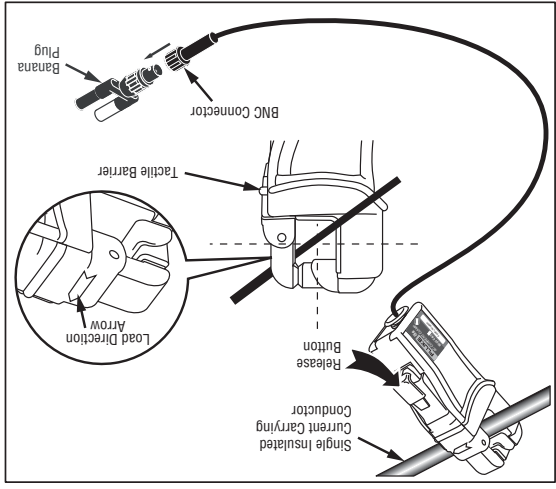

Figure 1. 155 Setup
- Do not hold the Current Clamp anywhere beyond the tactile barrier, see Figure 1.
1. To use the Current Clamp, refer to "Measurement Considerations" and Figure 1.